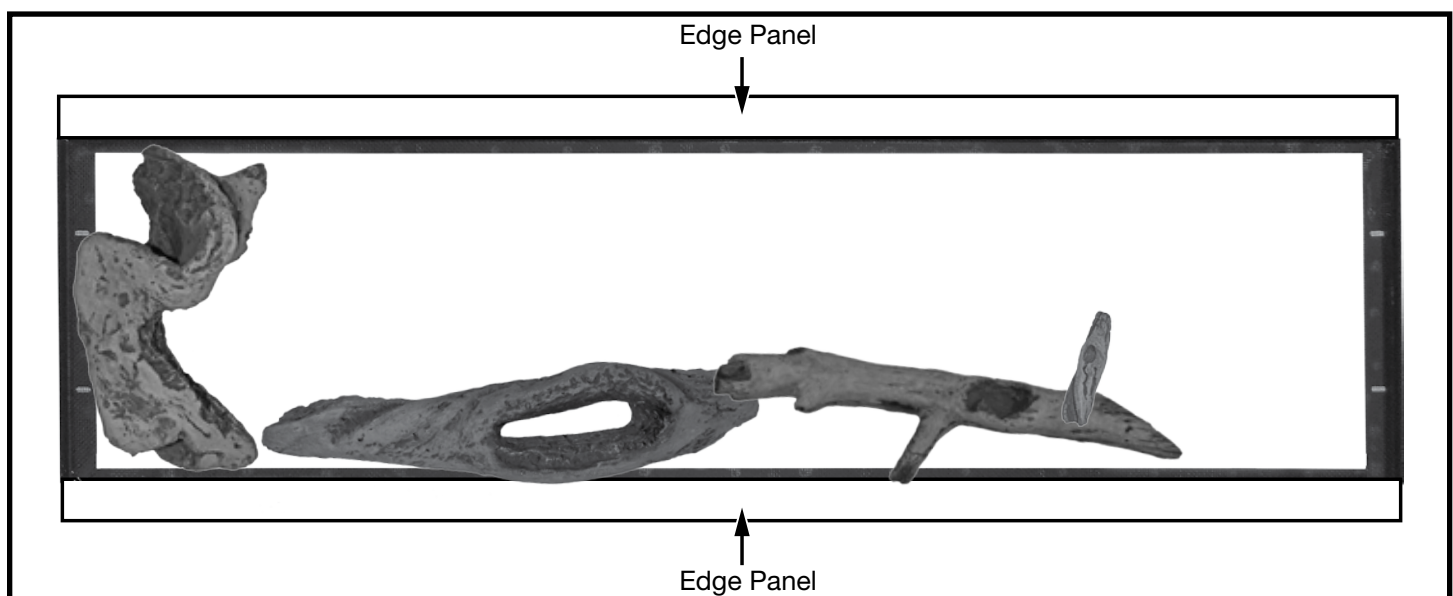

Figure 24: Log 4 placement.
4. The 4th log also has a socket which will fit over top of the location post of the 3rd log. Fit the 4th log over the location post and let the opposite end rest on the glass at about a 1 o'clock position (Figure 24).